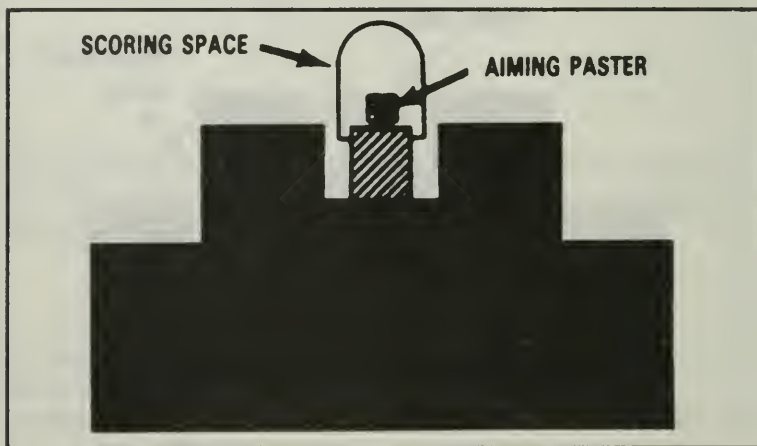

Figure 153. Sight picture.
b. Sight picture. Center the target over the front sight blade so that it appears to rest on top of the front sight blade and on top of the rear sight slide (Figure 153).